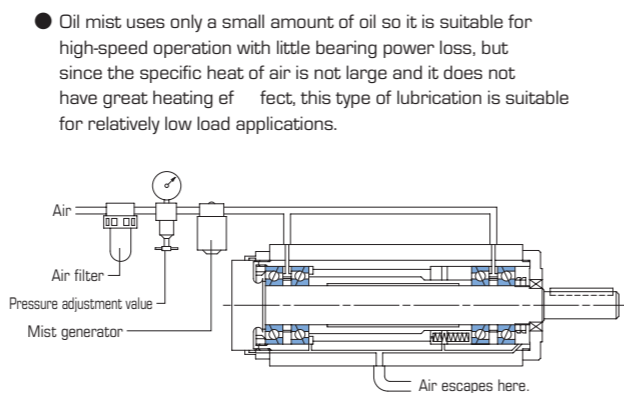

Figure 6.2 Example of Spindle Unit Using Vapor Lubrication
- ② Vapor lubrication (oil mist lubrication)
- With this lubrication method, the bearing is air cooled and a small amount of oils required for lubrication is vaporized and sprayed onto the bearing. Figure 6.2 shows an example of oil mist lubrication.